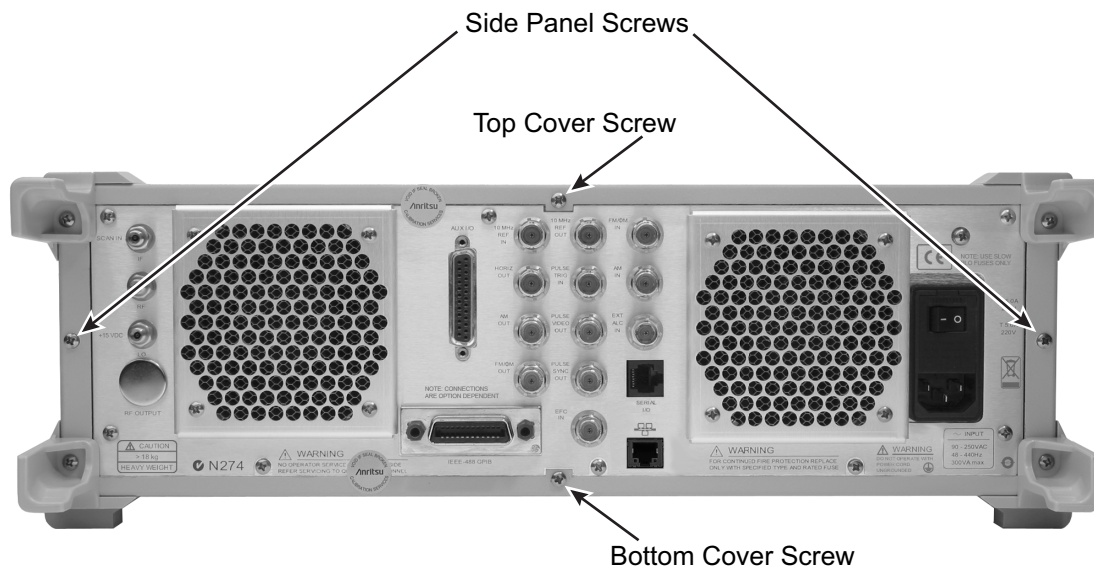

Figure 7-2. Rear Panel Retaining Screw Locations
3. Remove the screw that fastens the top cover to the chassis (see Figure 7-2 on page 7-11).
6. Remove the screw that fastens the bottom cover to the chassis. See Figure 7-2. At the rear of the instrument pull the cover upwards about 1.5 inches then pull the cover towards the rear of the instrument while sliding the cover out along the grooves in the chassis.
9. Remove the screw that fastens the left side cover to the chassis. See Figure 7-2.
11. Remove the screw that fastens the right side cover to the chassis. See Figure 7-2.